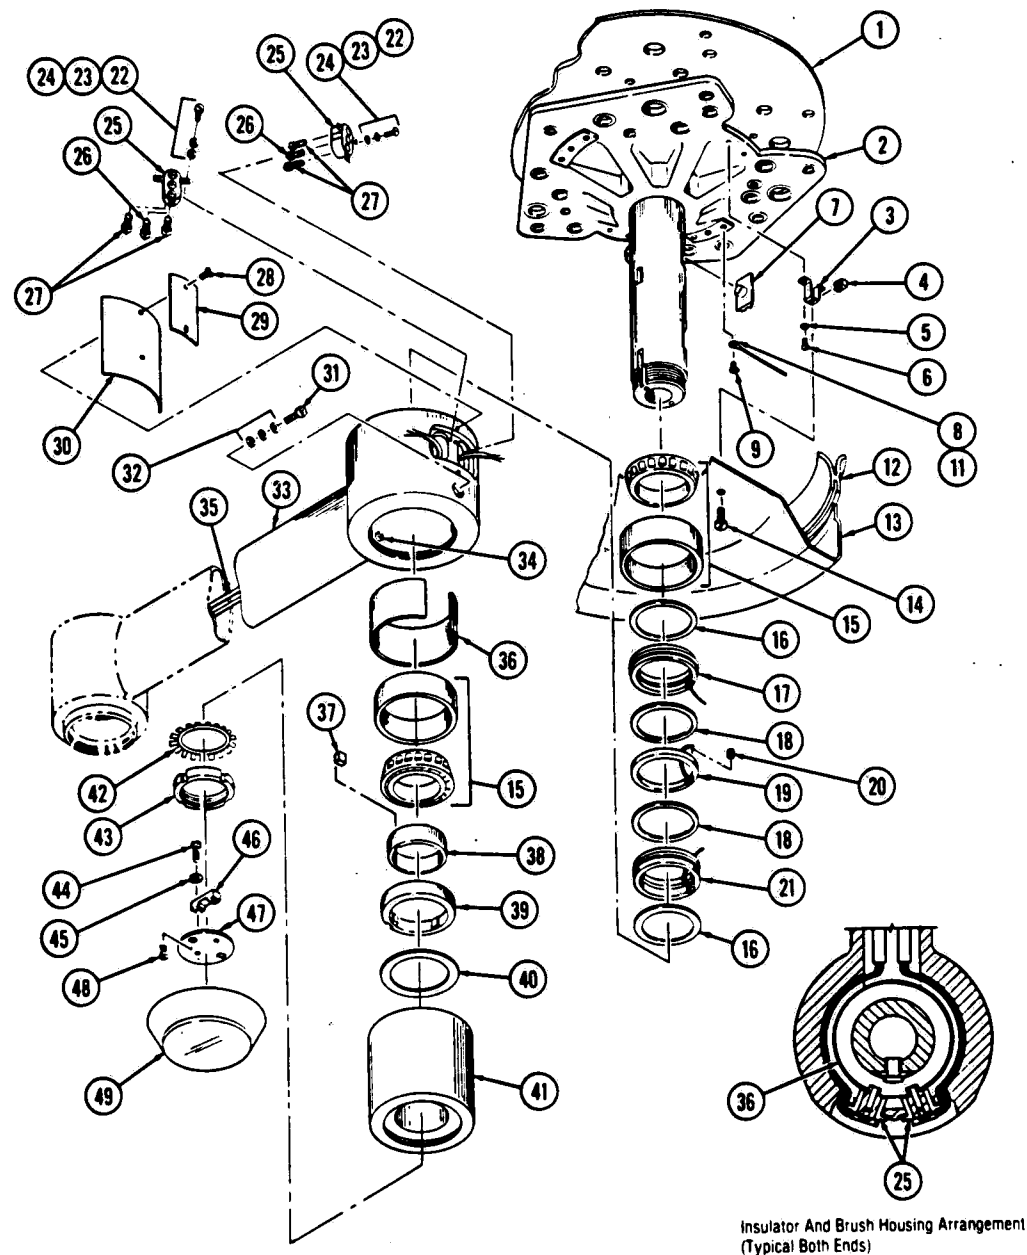

Figure 5-2. HORIZONTAL ARM ASSEMBLY (Part 1 of 2, Central Pivot).
4.15 SUPPORT ARM AND COLLECTOR RING REMOVAL/REINSTALLATION (See Figure 5-2)
4.16 CENTRAL MOUNT FIXTURE REMOVAL/ REINSTALLATION (See Figure 5-2)